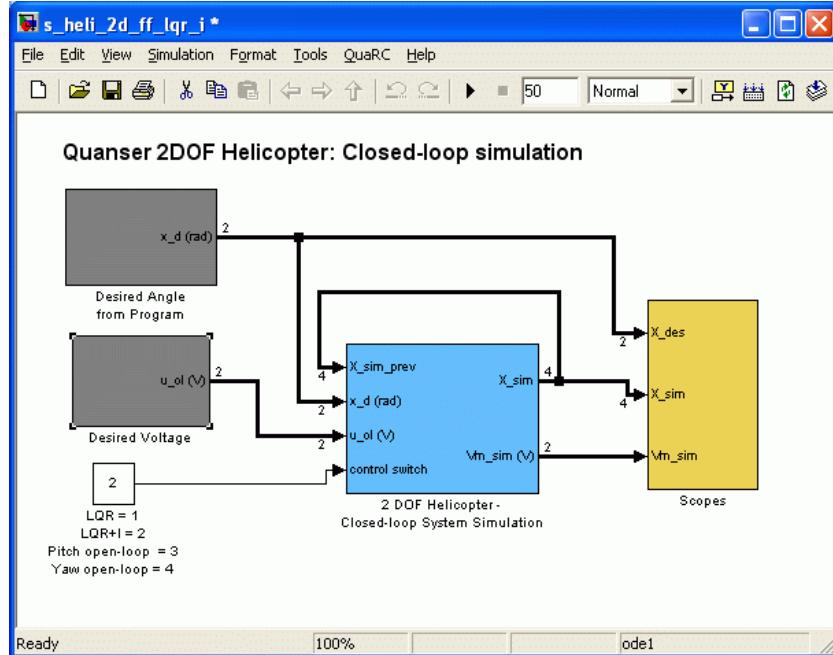

Figure 5.2: Simulink diagram used to simulate 2 DOF Helicopter system
2. Open the Simulink model called *s_heli_2d_ff_lqr_i.mdl*, shown in Figure 5.2.
When the switch is 1 or 2 the system runs in closed-loop and when it is 3 or 4 the user can command voltages directly to the actuators. When the switch is made from the closed-loop mode to open-loop mode the controller voltage values are latched and the *Desired Voltage* block shown in Figure 5.2 is enabled. This is particularly useful when performing model validation and parameter tuning.